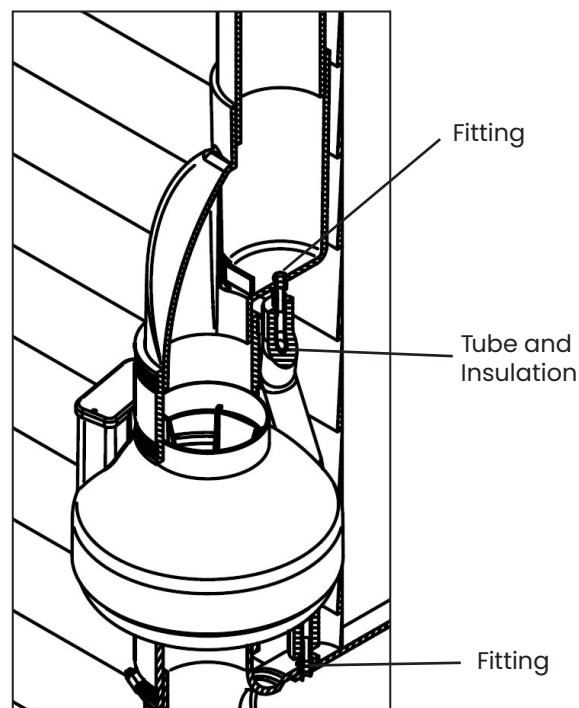
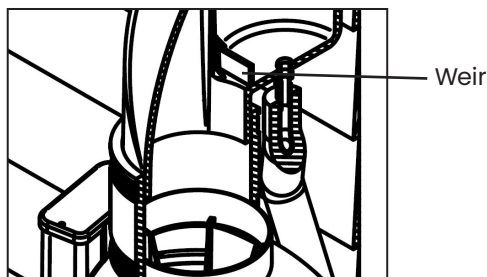
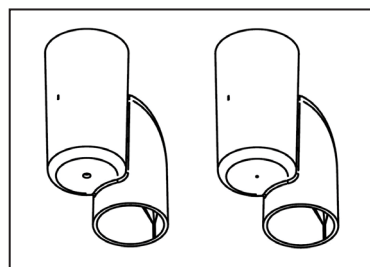

Figure 2:
Figure 1:
Figure 3:
1. If you will be installing the optional transition fitting, install it now; insert the weir (Figure 1) into the transition fitting as shown in Figure 2. Apply some cement to the bottom of the weir prior to installing.
2. Referring to Figure 3 below right, drill and tap a 1/4"-1/8" NPT hole using drill tap into the 4" Transition Fitting. Install the transition fitting above the fan (see Figure 2).
4. Perform the same drill / tap / fitting procedure on the inlet pipe below the fan as shown (Figure 2). The fitting must be less than 36 inches from the fitting above the fan.